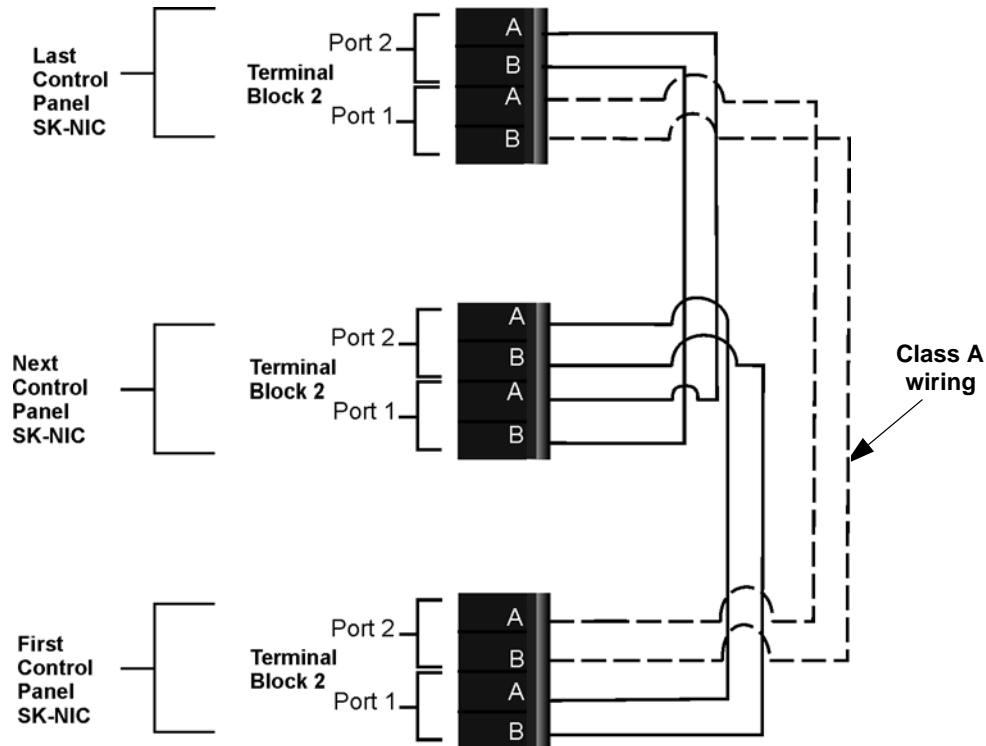
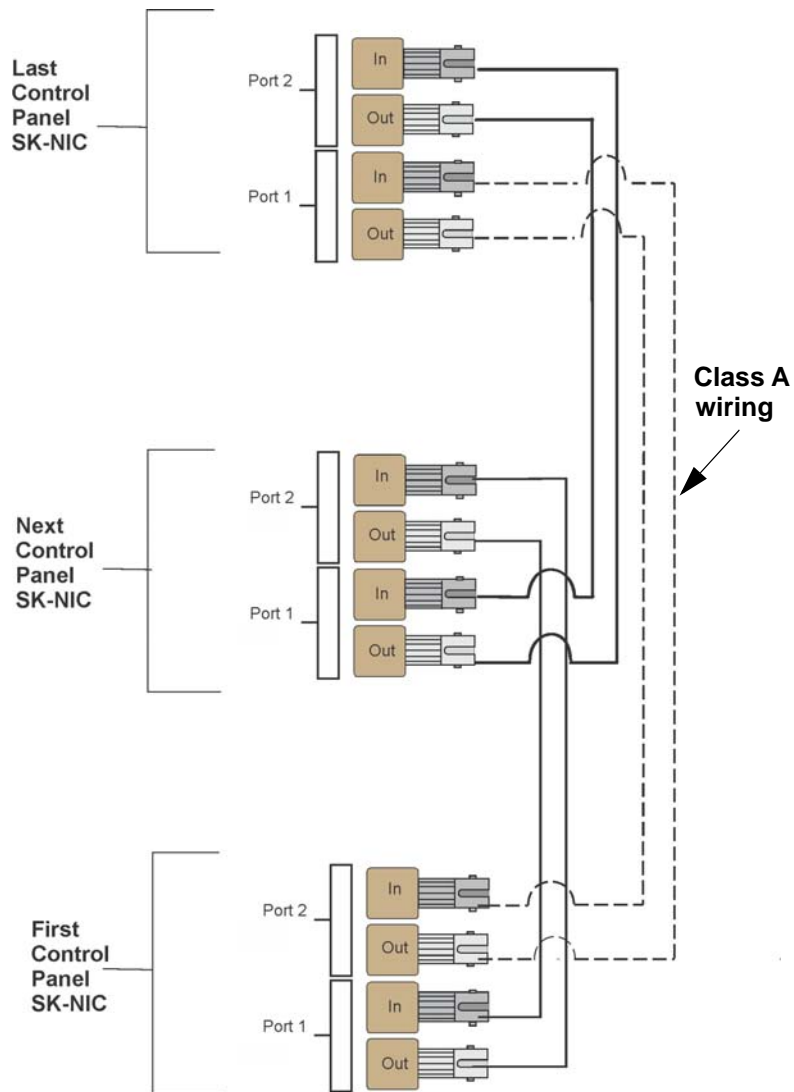
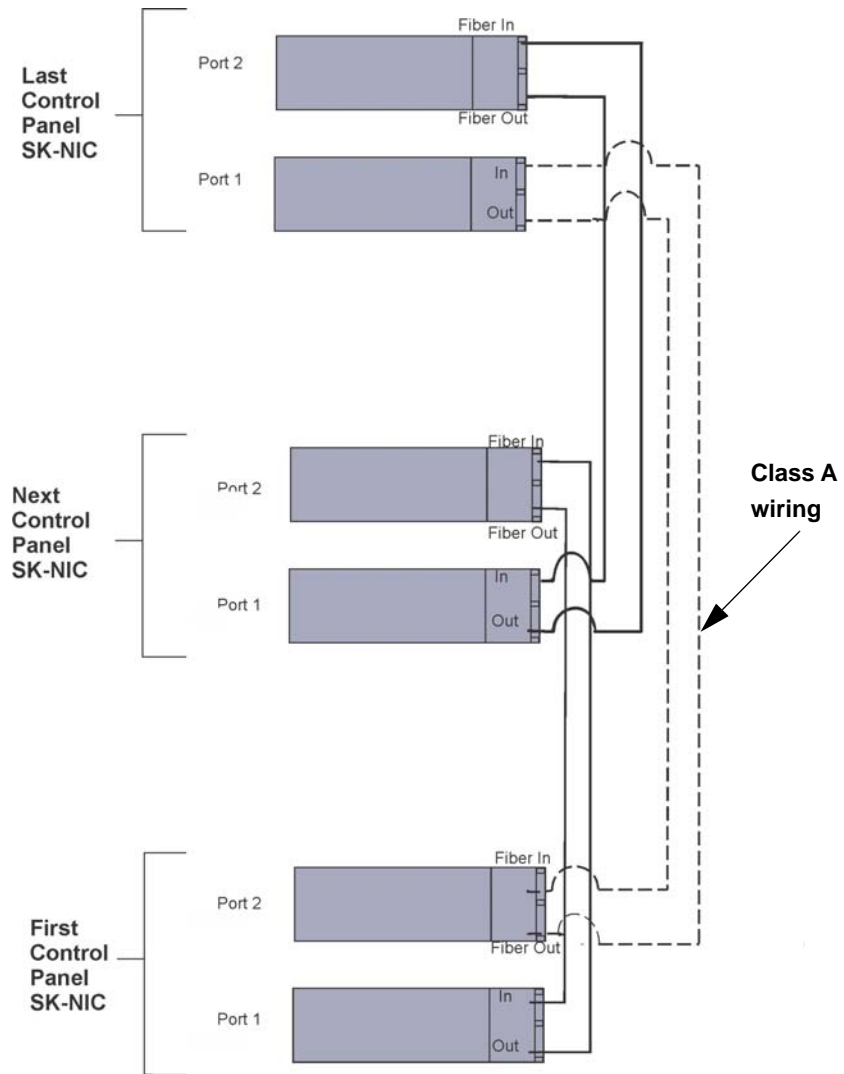
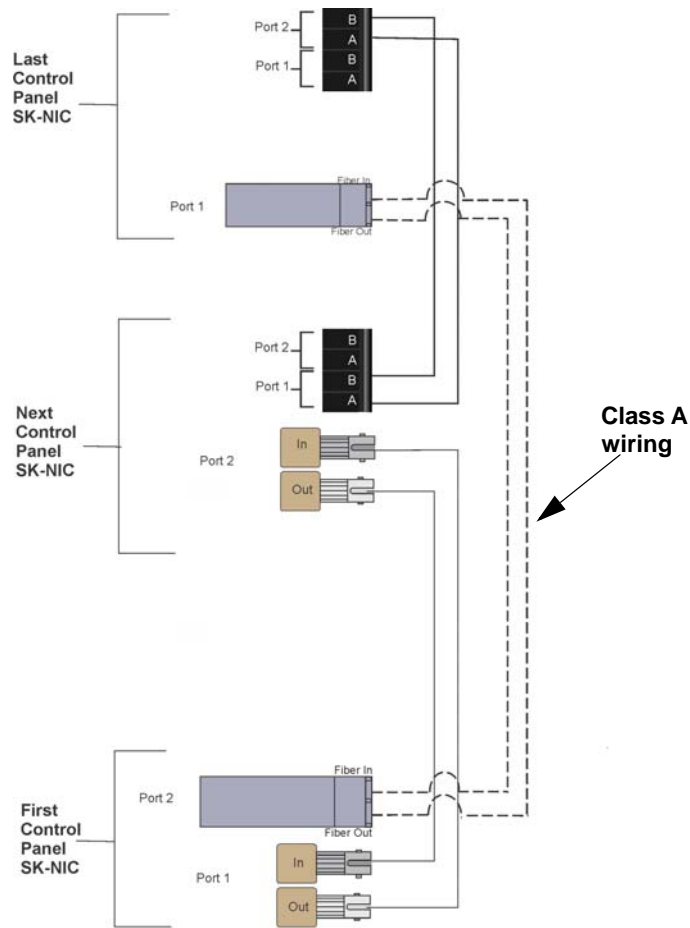

Figure 5.59 Twisted Pair Wiring Configuration
Figure 5.60 Fiber Optic Wiring Example
Figure 5.61 Fiber Optic Wiring Single-Mode Example
Figure 5.62 Twisted Pair and Fiber Optic Combination Wiring Example
5. Based on the type of data medium chosen, run the twisted pair wiring/fiber optic cable to the next SK-NIC using a class B or class A wiring method. A combination of both medium types can be used. See Figure 5.59, Figure 5.60, Figure 5.61, and Figure 5.62 for SK-NIC wiring examples.
Unshielded twisted pair wiring between multiple panels is shown in Figure 5.59. Class A wiring is shown with a dotted line.
Fiber optic cable between multiple panels is shown in Figure 5.60. Class A is shown with a dotted line.
A mixture of fiber optic cable and twisted pair wiring between multiple panels is shown in Figure 5.62. Class A cabling is shown with dotted line.